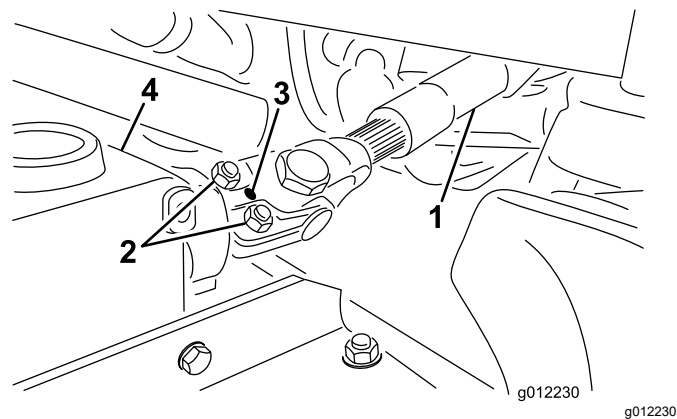

Figure 6
- A. Remove the roll pin from the end yoke and the gearbox shaft (Figure 6).
- B. Loosen the 2 capscrews and locknuts (Figure 6).
- C. Secure the end yoke of the PTO drive shaft to the gearbox shaft with the roll pin (Figure 6).
- D. Tighten the locknuts to secure the end yoke to the gearbox shaft (Figure 6). Torque the locknuts to 20 to 25 N·m (175 to 225 in-lb).